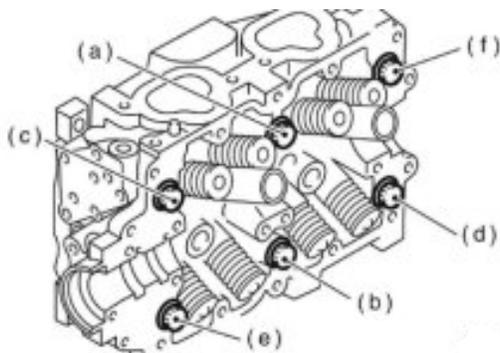

Figure 1: SOHC Head Bolt Torque Sequence
3. Tighten all bolts to 29.5 ft/lbs (40 Nm) in alphabetical order as shown in Figure 1.